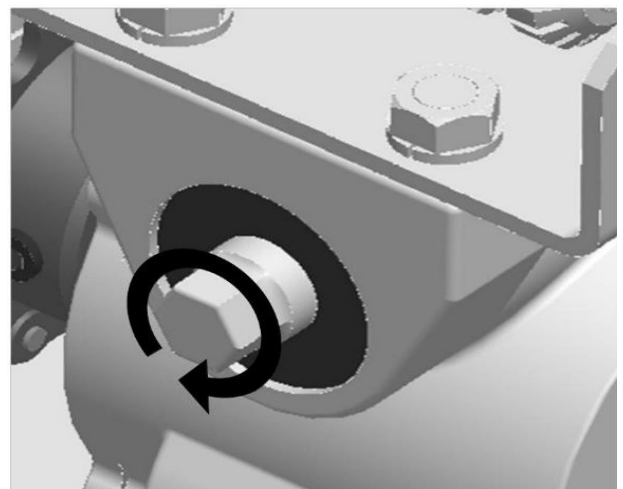

Figure 11
- 3) Use ½ in. (13 mm) hexagonal socket wrench to raise or lower the Covana cover by turning the operator's input shaft. (Figure 11)